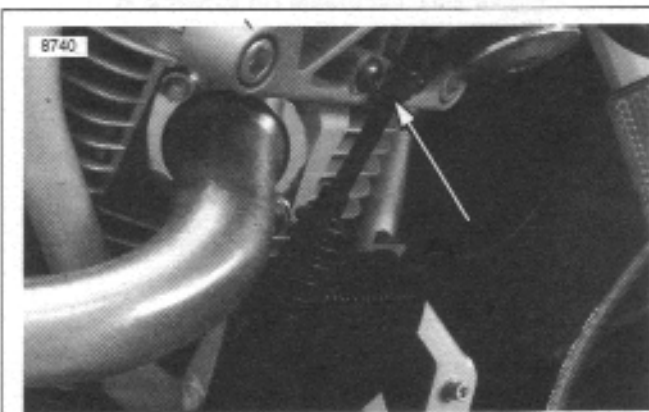

Figure 2-79. Clutch Cable P-clamp
2. See Figure 2-79. Remove clutch cable p-clamp.
4. Tighten front isolator bolt (6) to 49-51 ft-lbs (66-69 Nm).
5. See Figure 2-79. Install clutch cable p-clamp. Tighten fastener to 12-36 in-lbs (1-4 Nm).